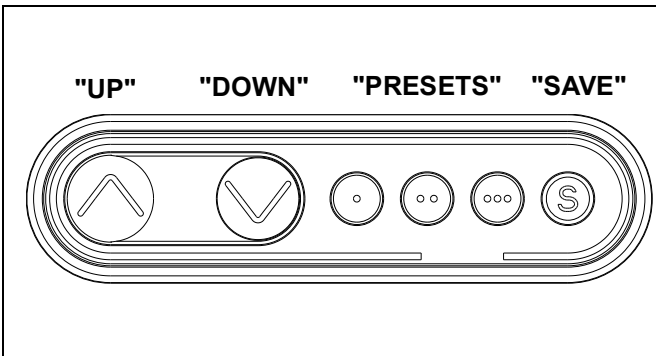

Figure 10
17. Plug in power cable (V) to outlet.
18. Press and hold "DOWN" button for three seconds to initialize lift mechanism. (See Figure 10)
19. Press and hold "UP" button until mount reaches it's maximum height. (See Figure 10)